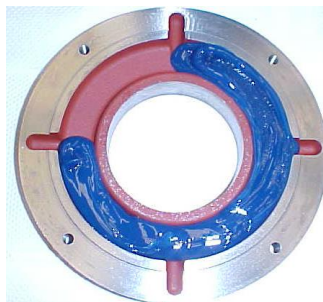

Figure 7.3: Outer bearing cap
- Fill up to $\frac{3}{4}$ of the inner and outer bearing cap deposits with the recommended grease (Figure 7.3) and lubricate the rolling bearing with enough grease before assembling it;
When the bearing is opened, inject the new grease through the grease nipple to expel the old grease found in the grease inlet tube, and apply the new grease in the rolling bearing, to the inner and outer rings, filling $\frac{3}{4}$ of the empty spaces, as shown in Figure 7.3. In case of double bearings (ball bearing + roller bearing), also fill $\frac{3}{4}$ of the empty spaces between the intermediate rings. Never clean the rolling bearing with cotton-based cloths, because they leave some lint, working as solid particles.